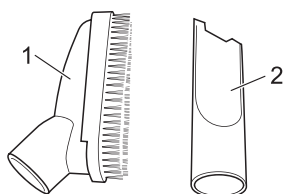

Fig. 6
- **Combi brush (Fig. 6/1)**
- **Crevice nozzle (Fig. 6/2)**